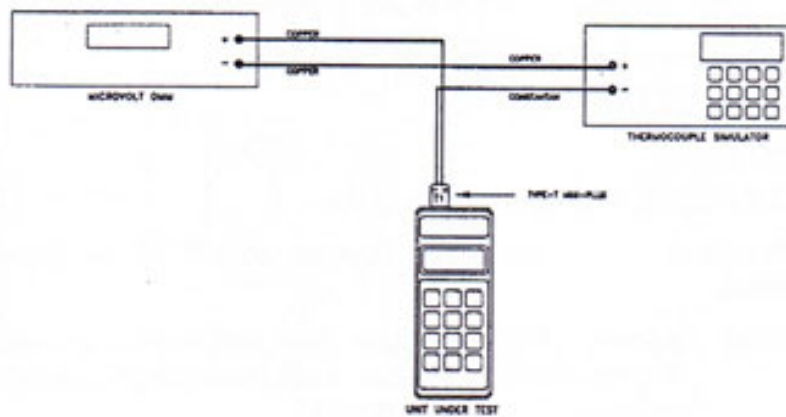

Figure 13. Calibration Setup, Calibrator Mode.
15. Reconfigure calibration setup per Figure 13. Leave simulator output at 32°F, Type T, ALLOY mode. Allow 2-3 minutes for thermal stabilization.